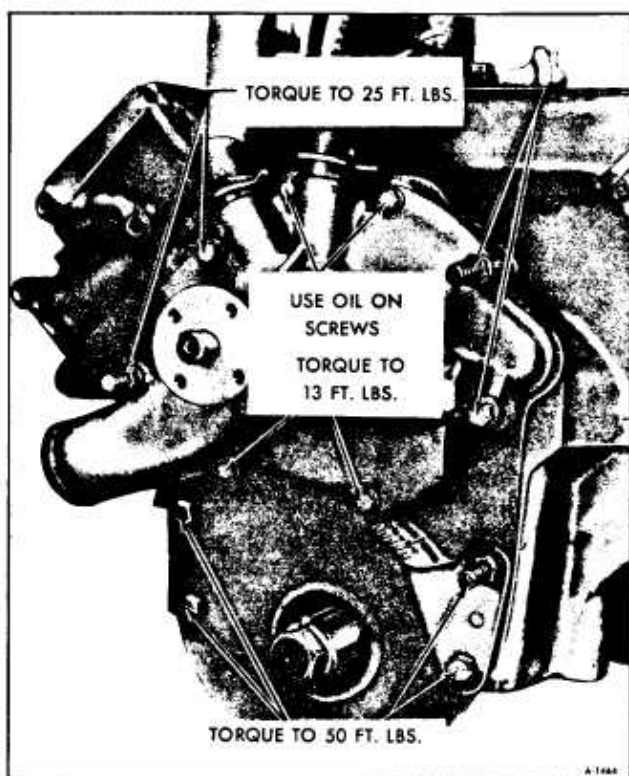

Figure 52—Engine Front Cover Bolts
2. Install front cover, timing indicator and water pump assembly. Apply engine oil to bolts and torque bolts as shown in Figure 52.